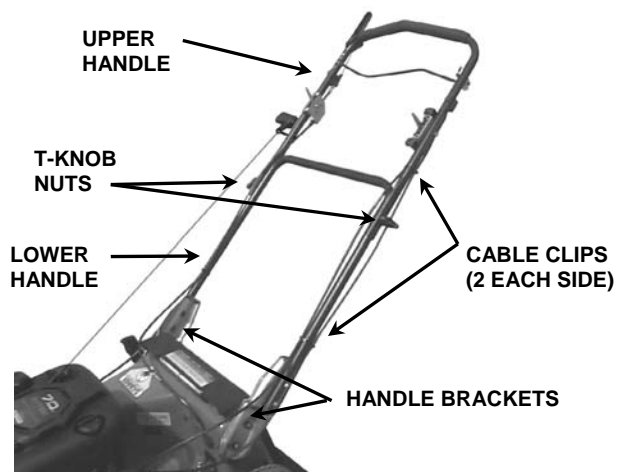

FIGURE 1
STEP 2: The bolts attaching the lower handle to the handle brackets are for shipping purposes only. Remove those bolts, and insert two curved head bolts out through each handle bracket and lower handle tube, securing with internal lock washers and nylon lock nuts. Tighten securely. See Figure 1.
STEP 3: Remove the two shipping bolts (one each side) attaching the upper handle to the lower handle. Replace each with a curved head bolt, inserting out through each side, and securing with an internal lock washer and a plastic T-knob nut. Tighten securely. See Figure 1.
STEP 4: Secure control cables along each side of handle assembly with four cable clips, positioning them as shown in Figure 1. Make sure that cables are set into relief loops in cable clips. Once clips are installed, make sure that all controls operate without binding.